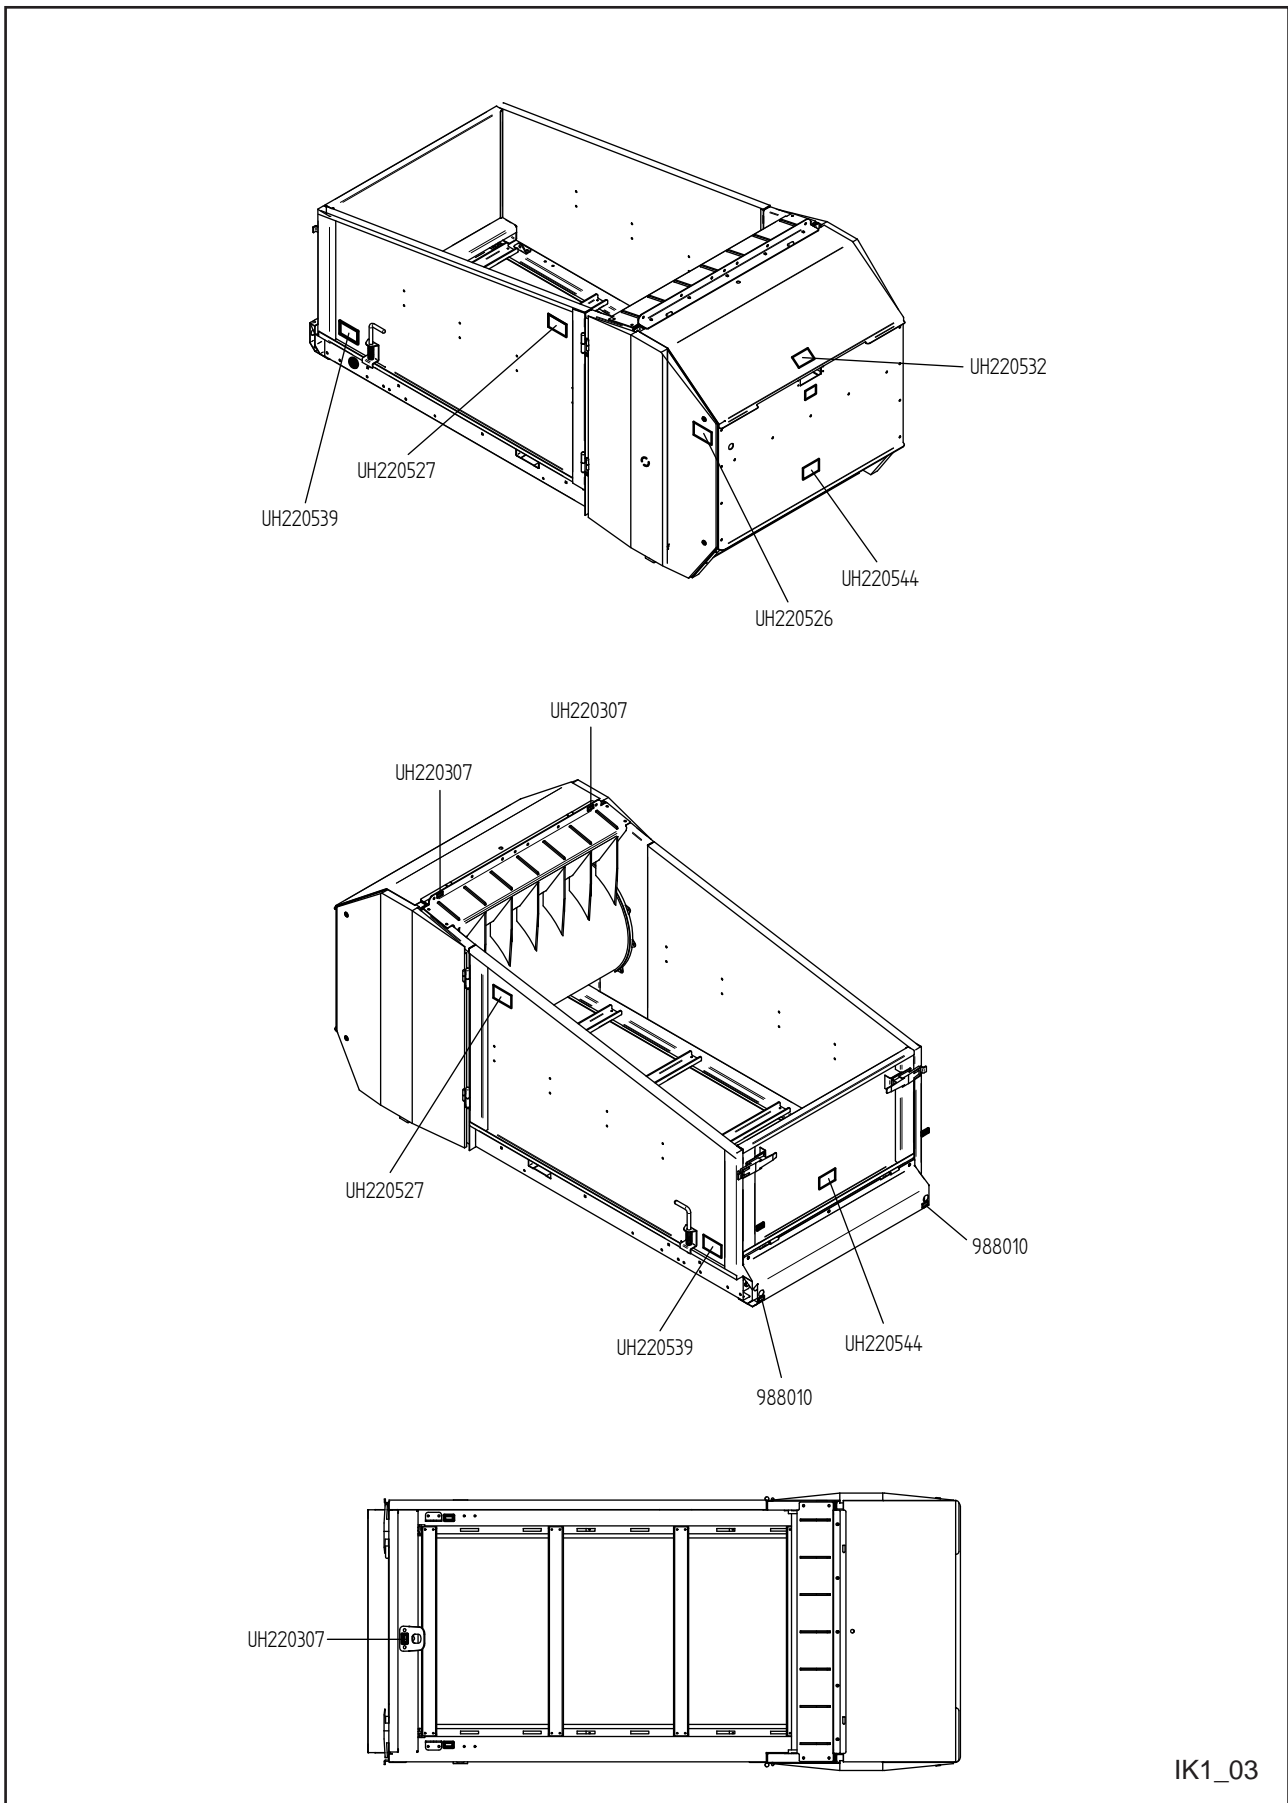

Fig. 10
**See Fig. 10** for their location on the machine.
**See Fig. 10 no. UH220307**